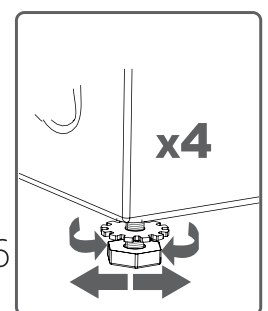

Fig6
**4:**Adjust by rotating the feet upwards or downwards.(Fig 6)